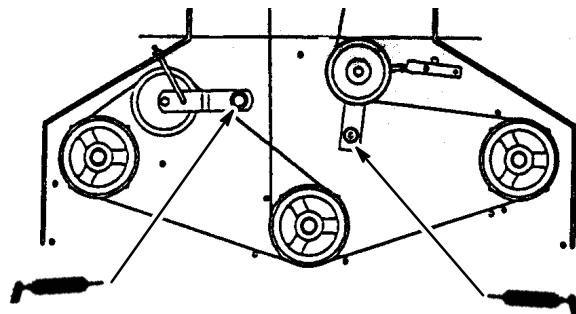

Figure 40
3. Lubricate the blade belt idler arm pivots. (Fig. 40). Lubricate every 50 hours.